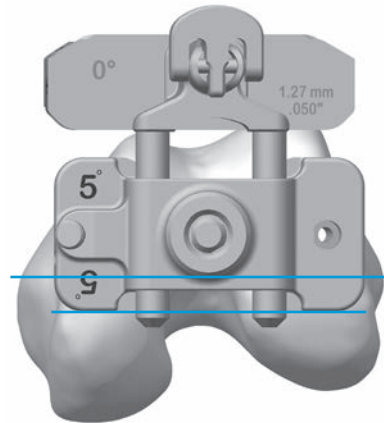

Fig. 111
- Set the orientation of the Fixed Valgus Guide by placing it against the most prominent distal condyle and rotating it about the IM Rod so that it is aligned with the epicondylar axis (Fig. 111).